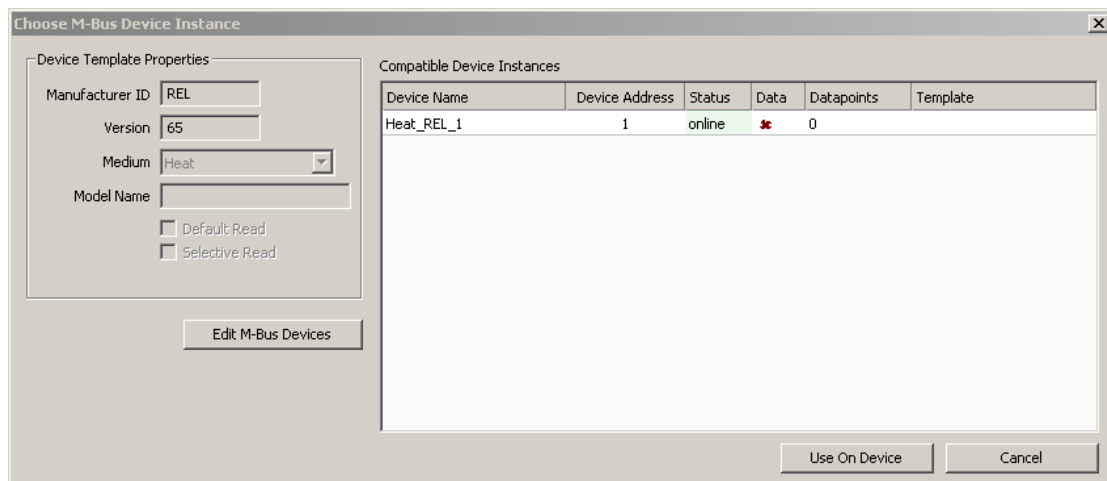

Figure 177 Use on Device dialog.
3. Either press on the **Use on Device** button  or right-click and select **Use on Device**. This opens the **M-Bus Configure Device For Use** dialog shown in Figure 177.